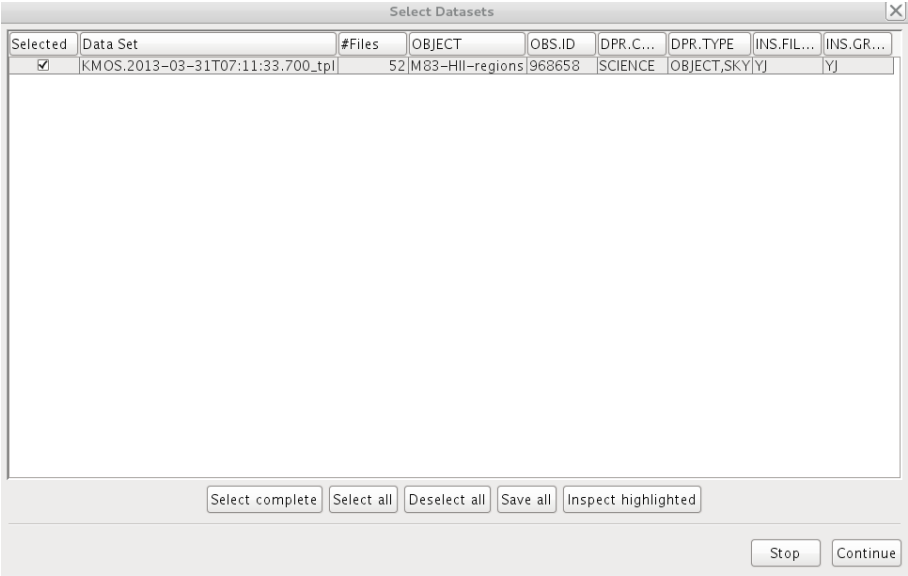

Figure 4.3: The “Select Datasets” pop-up window.
7. The `Data Set Chooser` actor will be highlighted next and will display a “Select Datasets” window (see Figure 4.3) that lists the `DataSets` along with the values of a selection of useful header keywords⁷. The first column consists of a set of tick boxes which allow the user to select the `DataSets` to be processed, and by default all complete `DataSets` are selected.